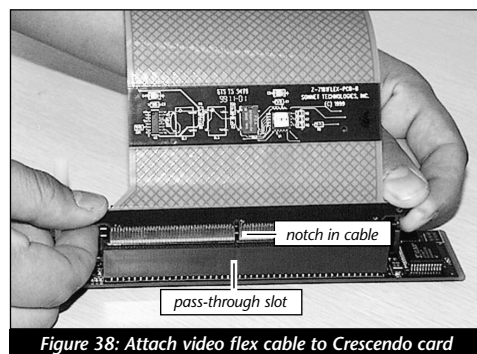

Figure 38: Attach video flex cable to Crescendo card
11. Attach the video flex cable into the pass-through slot of the Crescendo card (note the notch in the cable for orientation). Press down on the outer edges of the cable until it is firmly seated (*Figure 38*).